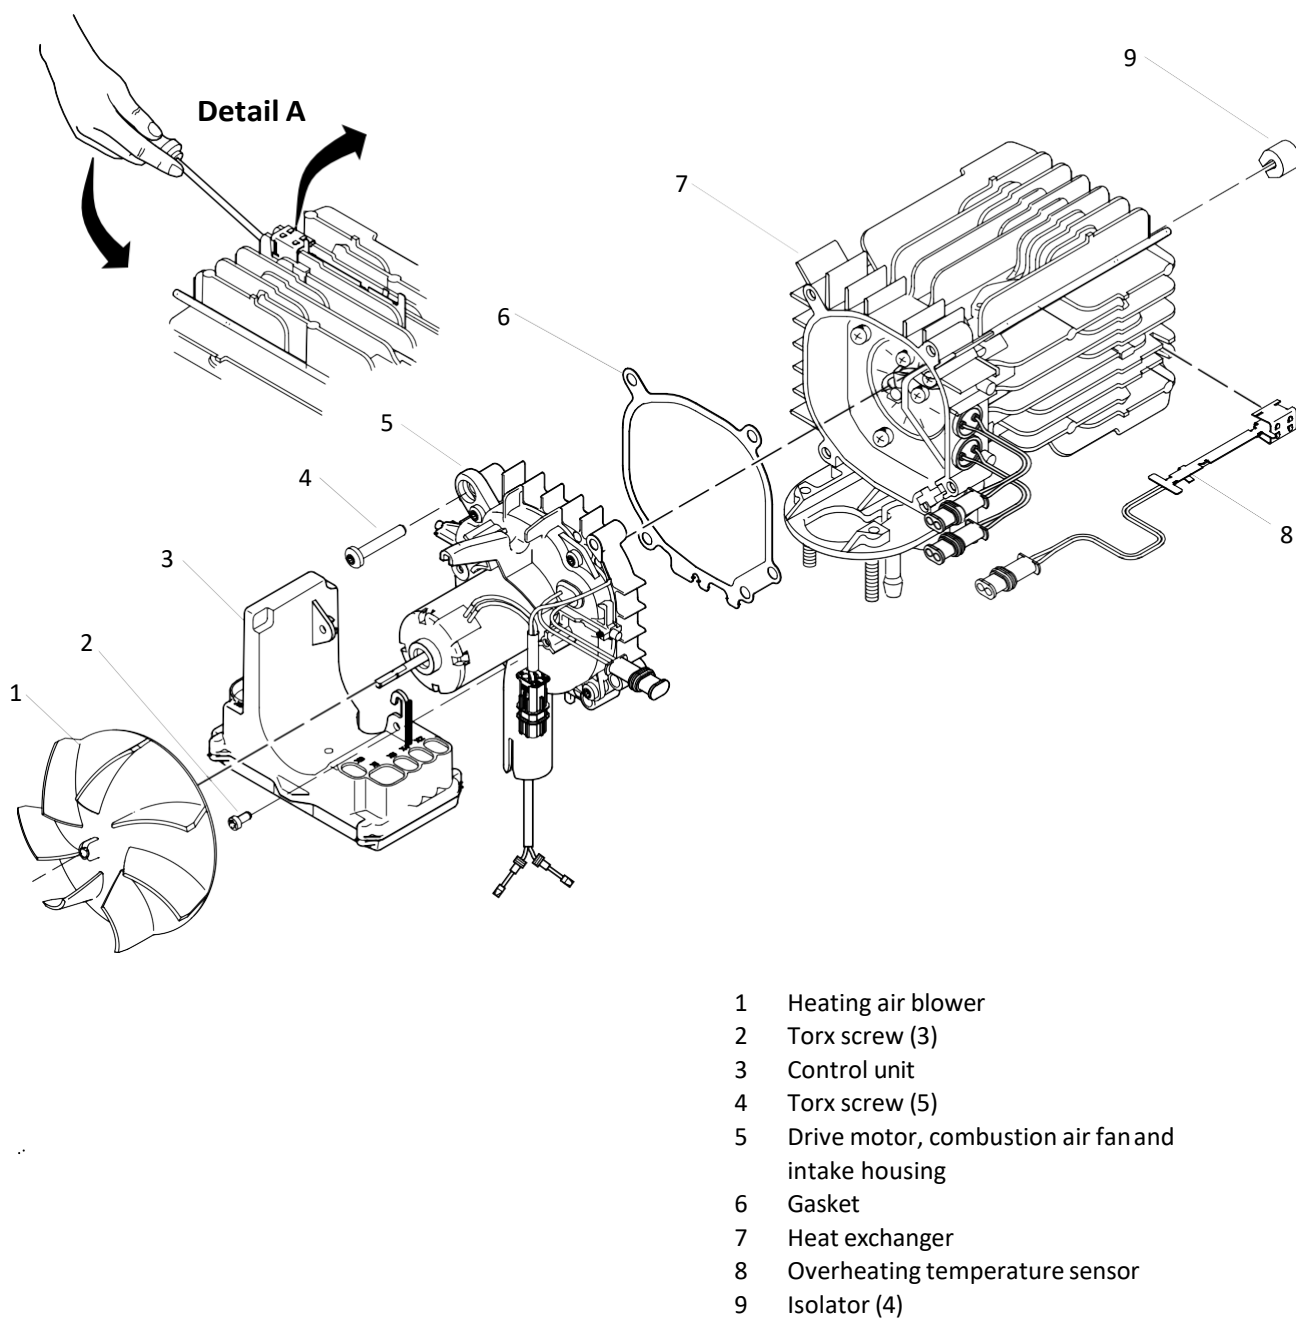

Fig. 903 Replacing control unit, combustion air fan and overheating temperature sensor
4. Pull off the heating air fan (1, Fig. 903) from the motor shaft by hand.
5. Disconnect plug connections at control unit (3).
6. Remove screws (2) and remove control unit (3).
1. Place control unit (3, Fig. 903) in installation position and secure with screws (2).
3. Slide heating air fan (1) onto the motor shaft until the lugs on either side can be heard to engage in the groove on the shaft.
3. Remove insulators (9, Fig. 903).
4. Disconnect plug connection X5 at control unit (3).
1. Measure resistance of overheating temperature sensor (8, Fig. 903) (see 6.4.5).
2. Place overheating temperature sensor (8) in installation position on heat exchanger (7) and press in by hand.
A total of 9 screw heads can be seen (see 5, Fig. 903). The 5 outer screws serve to secure the intake housing to the heat exchanger (7). Only these screws are to be removed.
4. Remove screws (4).
5. Pull drive unit (5) from heat exchanger (7), remove and dispose of gasket (6).
1. Make sure that the sealing surfaces on the intake housing (5, Fig. 903) and on the heat exchanger (7) are not damaged.
2. Place a new gasket (6) on flange of intake casing (5).
3. Fit drive unit (5) in assembly position and secure with screws (4) while also securing the earth connection of the wiring harness to the drive motor.
4. Tighten screws (4) to 6 ± 0.6 Nm.
5. Remove two screws (2, Fig. 903) and air baffle (3).
6. Press cable grommet (11) at flame monitor cable inwards and out of heat exchanger (9).
7. Carefully bend back retaining clip (4) and pull flame monitor (1) out of burner.